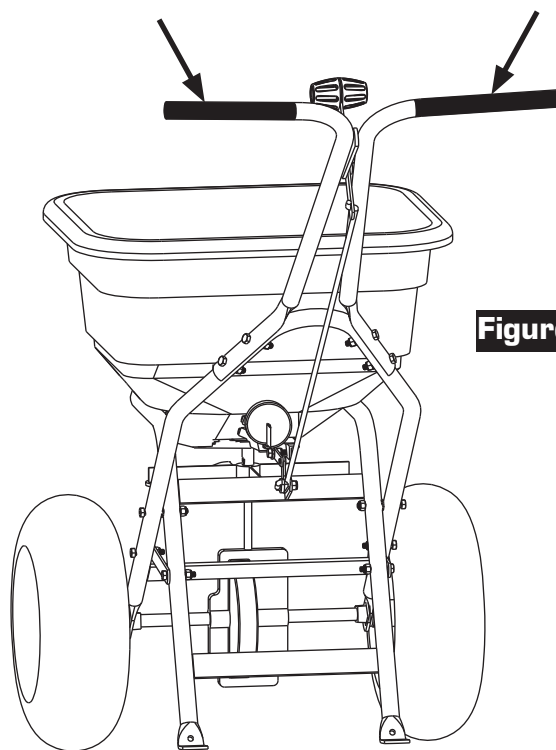

Figure 11
11. Install Handle Grips on Handles of Spreader as shown in Figure 11.